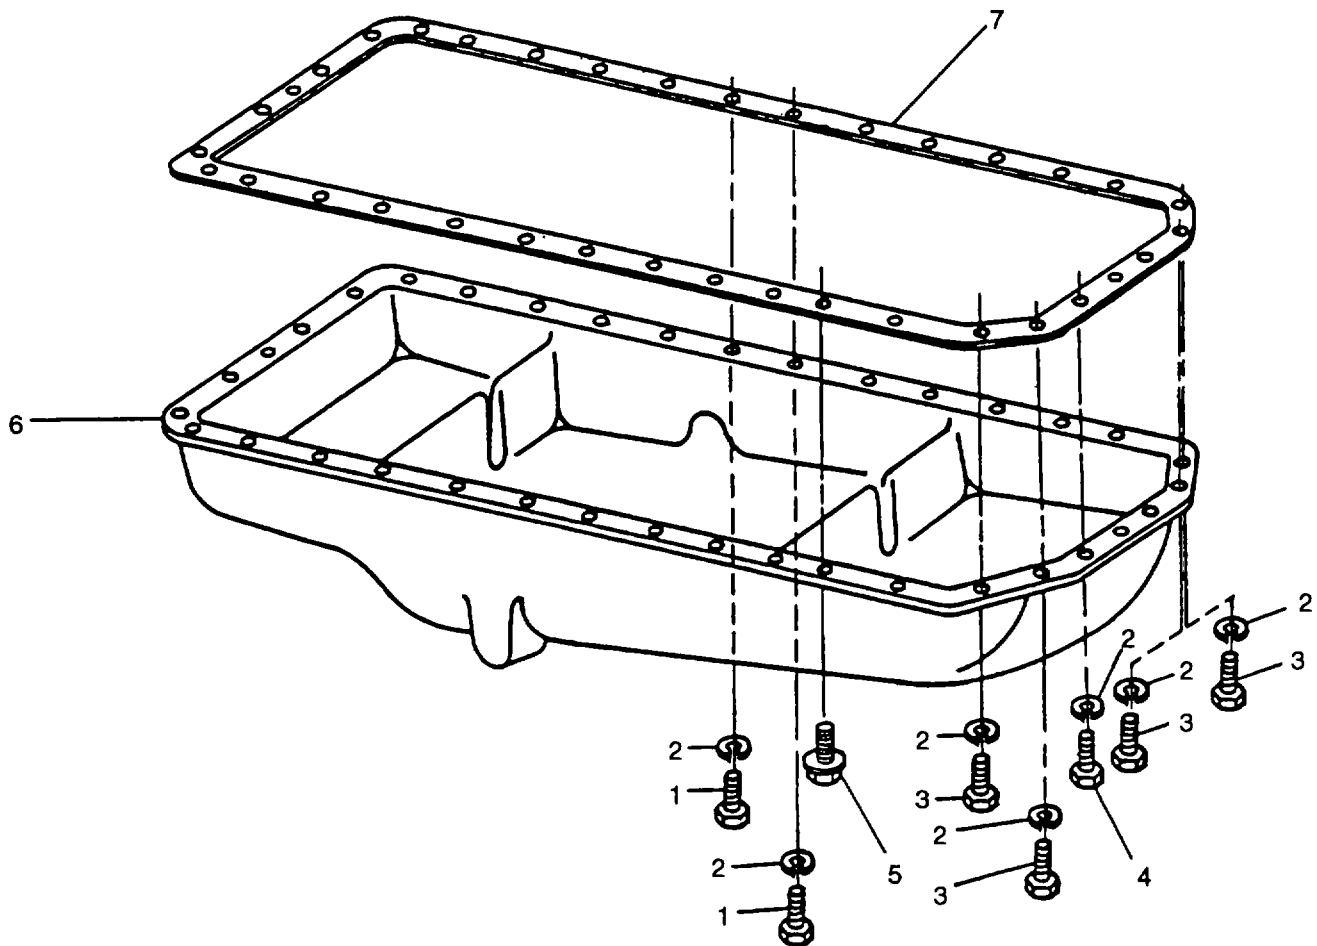

FIGURE 3-52. Oil Pan
- b. Support oil pan and remove two bolts (1, FIGURE 3-52), four bolts (3), two bolts (4), eight lockwashers (2), and twenty-eight flanged head bolts (5), securing oil pan (6) to engine block. Remove oil pan (6) and gasket (7); discard gasket (7).
- b. Place new gasket (7, FIGURE 3-52) and oil pan (6) on engine block and secure with two bolts (1), four bolts (3), two bolts (4), eight new lockwashers (2), and twenty-eight flanged head bolts (5). Install the eight longer bolts (1, 3 and 4) in locations noted during removal.
- Remove four bolts (4, FIGURE 3-52), two capscrews (3), and six lockwashers (2) from front of oil pan.
- c. Install four bolts (4, FIGURE 3-52), two capscrews (3), and six new lockwashers (2) in front oil pan. Tighten oil pan-to-timing cover capscrews to 27 ft-lbs (37 Nm). Tighten others to 35 ft-lbs (47 Nm).